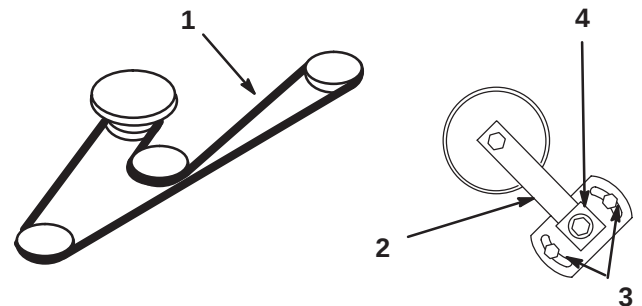

Figure 57
- Loosen two nuts securing idler plate and move the idler arm to relieve belt tension on the idler pulley, then remove the worn deck belt (Fig. 57).
- Install the new deck belt around the spindle pulleys, belt guide, the idler pulley, and in the lower groove of the center spindle pulley (Fig. 57).